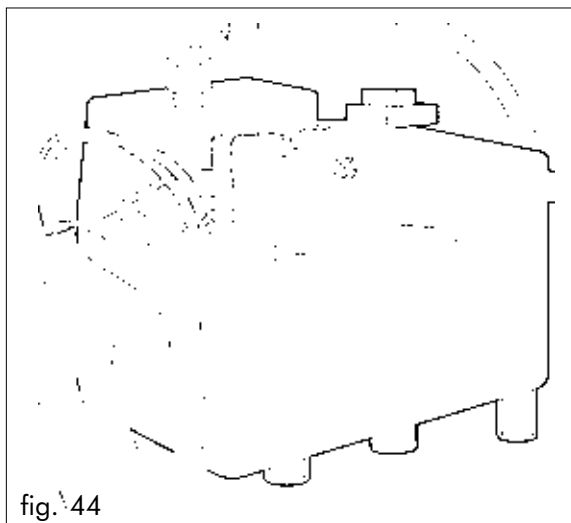

fig. 44
- When the minimum level set by the floater is reached inside the reservoir (fig. 44), the boiler heating resistance will be automatically enabled;